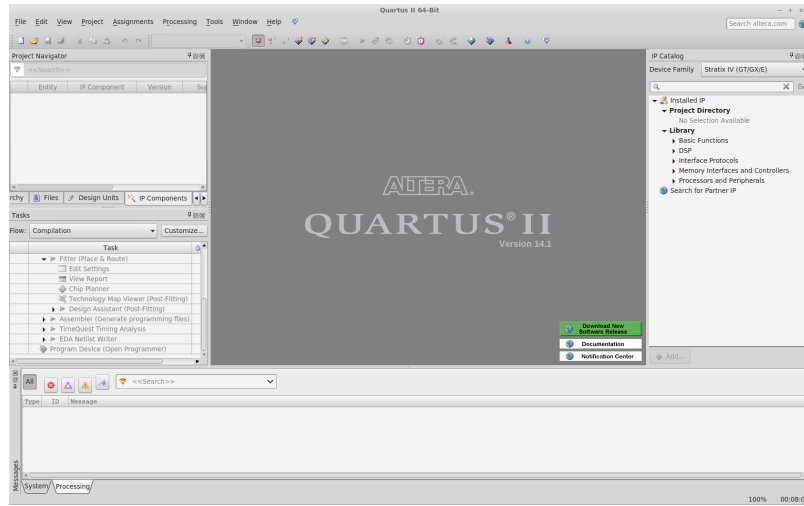

Figure 5.1: Welcome Screen for Quartus 14.1
1. Open Quartus to get the introductory screen shown in Figure 5.1.